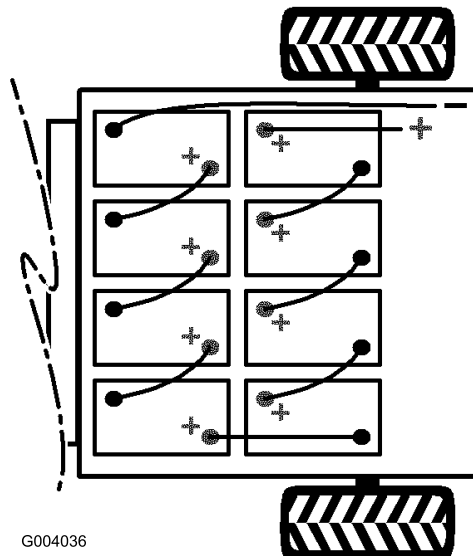

Figure 11
4. Install the batteries as shown in Figure 11.
Note: Pay attention to the battery polarity when installing the new batteries (Figure 11).
6. Connect the batteries together with the battery cables included in loose parts, as shown in Figure 11. Ensure the cable routing does not allow cables to contact any sharp edges.
7. Tighten the bolt and secure the other side of the clip with a new bolt (5/16 x 3/4 inch) and flange nut (5/16 inch) (Figure 11).
8. Connect the long, red, main positive lead between the bank of batteries and the vehicle (Figure 11).
9. Connect the long, black, main negative lead between the bank of batteries and the vehicle (Figure 11).